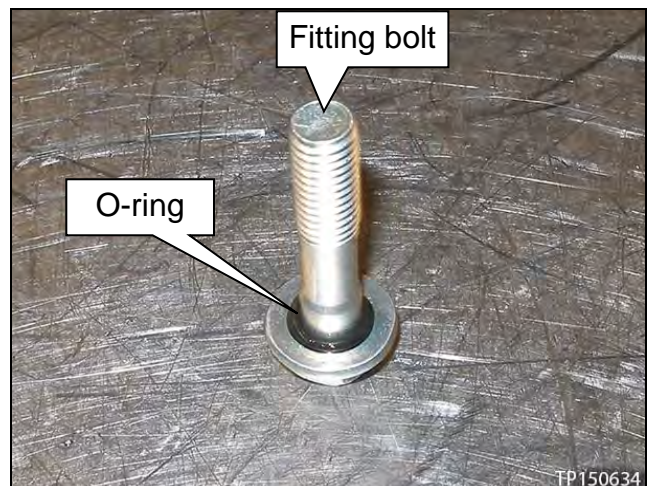

Figure 2E
2. Place new O-ring on the fitting bolt, and coat with CVT fluid (Figure 2E).